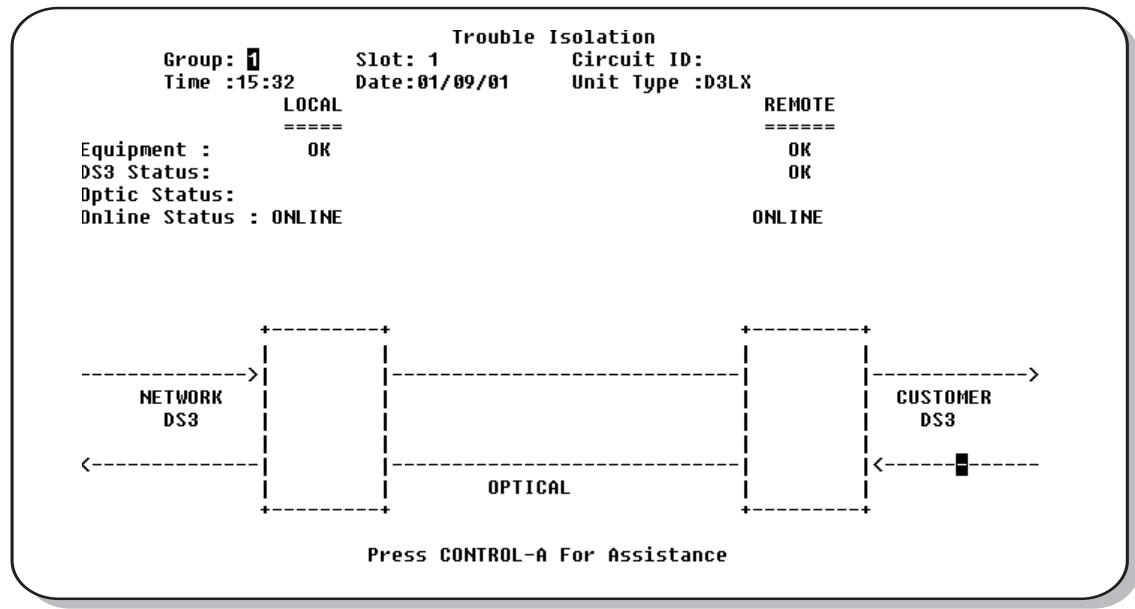

Figure 18. System Maintenance–Trouble Isolation Screen Shown
- 8. Trouble Isolation (as shown in Figure 18 on page 31), and then select the Group and Slot.